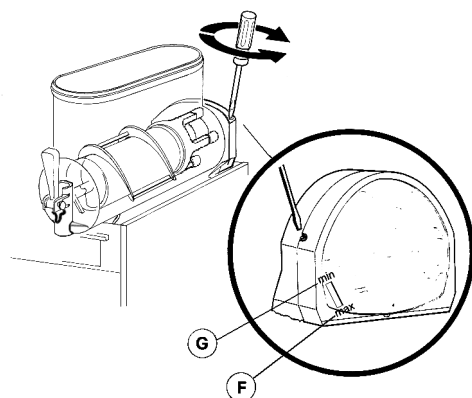

figure 4
- 1 - **Granita viscosity adjustment:** proper Granita viscosity is factory preset. To change the viscosity, if needed, use a standard screwdriver to turn the adjustment screw located in the rear wall of each container as follows (see figure 4):